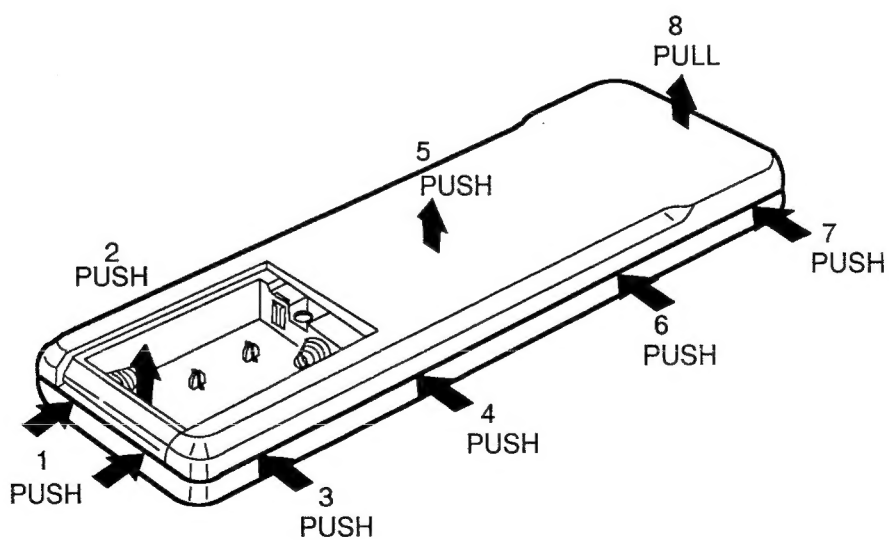

Figure-4.
3. Push and pull the rear of cabinet bottom, then push and pull the side of cabinet bottom, and remove the cabinet bottom. See Figure-4.